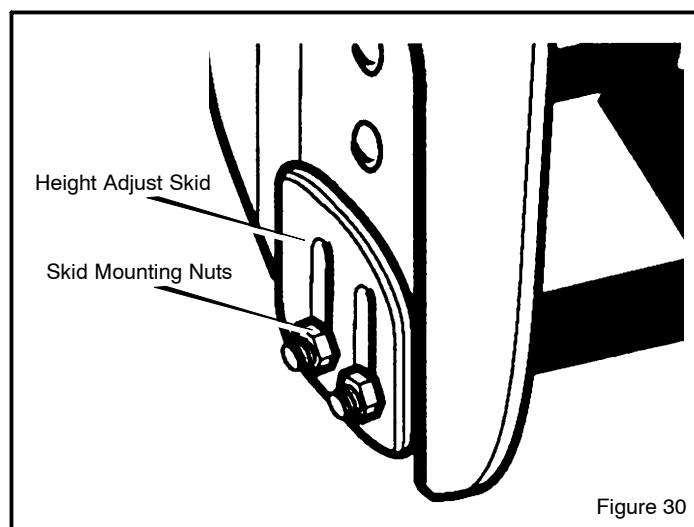

Figure 30
2. Loosen skid mounting nuts (Figure 30) and push the skid down until it touches the ground. Retighten mounting nuts.